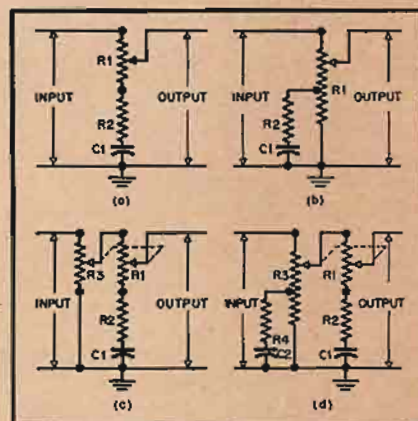

Fig. 7. Bass-compensation input circuits.
Such a combined control has been used in one particular form, as at (B) of Fig. 7, in many receiver designs over a period of about twenty years, affording some, but usually not enough compensation. This form, as well as that of Fig. 6, is based on the fundamental compensator circuit of (A), Fig. 7. As the slider of potentiometer  $R_1$  moves down toward  $R_2$ , the output voltage becomes more nearly the potential drop existing across capacitor  $C_1$ .  $R_2$  is the limiting factor which determines the maximum high-frequency attenuation and, together with
$C_1$ , the upper limit of frequency compensation ( $T = R_2 C_1$ , and  $f_c = \frac{1}{\pi T}$  at +1 db from flat response). This circuit is simple and approaches a maximum of 6 db compensation per octave below  $f_c$ ; unfortunately, as in Fig. 6, it has the fatal defect of not allowing the volume control to reach essentially zero output level, because  $R_2$  must have a rather high finite value (about  $1/20$  of  $R_1$ ). This difficulty can be overcome in inexpensive fashion by shunting  $R_2 C_1$  to ground with part of potentiometer  $R_1$ , which then also provides a d.c. grid-return path. The result is the familiar tapped volume control circuit of (B), Fig. 7. The response obtained with typical values in such a system is shown in Fig. 8. The compensation is not very close to the theoretical values of Fig. 5 for two reasons: (1)  $R_2 C_1$  is shunted by a fixed value of resistance (from the potentiometer tap to ground) which is